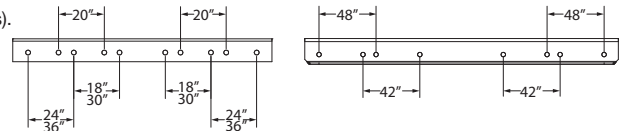

Figure 2 — Top Channel Whiz Bolt Placement
2. Using holes provided and four whiz bolts(A), fasten one side channel assembly(B) to the air circulator tube. Repeat on other side.
3. Place top channel(C) across attached side channel assemblies. Refer to Figure 2 for appropriate whiz bolt placement according to air circulator tube. Fasten with eight whiz bolts(A) and whiz nuts(D).
4. Mount air circulator to a structurally adequate steel structure with a minimum working load capacity of 150 lb. (models MAC-CM-S and MAC-CM-L) and 175 lb. (model MAC-CM-XL), using grade 5 bolt(E), two flat washers(F) and nylock nut(G).
5. Attach safety cable(H) with cable retainers(I) for fall protection. Allow enough slack in the safety cable to allow tilt adjustment to the air circulator.